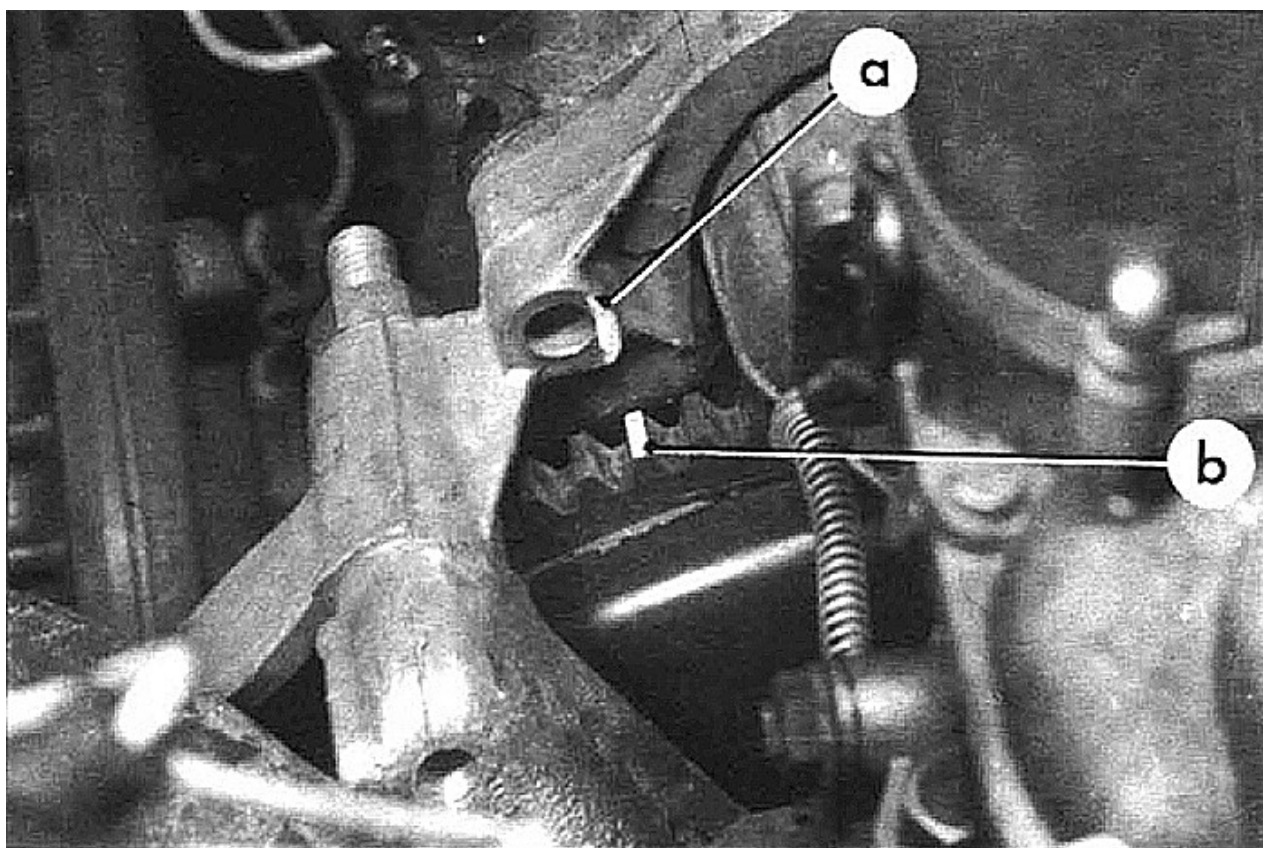

Fig. 1-1. The two timing marks painted on the 2CV engine
Most readers will be familiar with the standard strobe timing light. Its purpose is to generate a bright flash at the moment the engine's number one cylinder spark plug fires, allowing the ignition timing point (crankshaft angle with respect to top dead centre) to be checked/set. The engine manufacturer specifies the spark plug firing angle with respect to the crankshaft's top dead centre position. *Although this article applies in principle to all vehicles*, the Citroen 2CV is used as an example. For the 2CV, the required timing marks have to be established by locking the flywheel at 8° BTDC (before top dead centre) with a 6 mm pin, then painting two white marks which are aligned: one mark on a visible flywheel tooth and the other on the adjacent gearbox casing at a point which lines up with the marked flywheel tooth. (Refer to the Engine section in the writer's article, 2CV Maintenance - Part 1 of 2 for further information on setting engine timing.) See Fig. 1-1 below which shows the marks painted on the 2CV.
After removing the timing pin, start the engine and set the idle speed to 800 - 850 RPM. The engine timing is adjusted with the aid of a timing light so the two painted marks are lined up as shown in Fig. 1-1. At that point, the engine idle timing has been set according to Citroën's specifications, where the spark plugs fire at 8° BTDC at idle. **Citroën's 8161 Repair Manual page 56 states "in no circumstances should the advance be less than 8° for the M28/1 engine"**.
1. With the 6 mm timing pin fitted in place, check that the two painted timing marks are clearly visible and in line, per Fig. 1-1.
6. Adjust the ignition timing so the two timing marks are lined up per Fig. 1-1. This sets the engine timing to 8° BTDC at idle.
8. Select Advance Mode on the timing light, then continue to press the increment button until the two timing marks are lined up per Fig. 1-1. The increment button increases the Advance angle on the control panel in 1° steps. Press the decrement button to reduce the Advance angle.